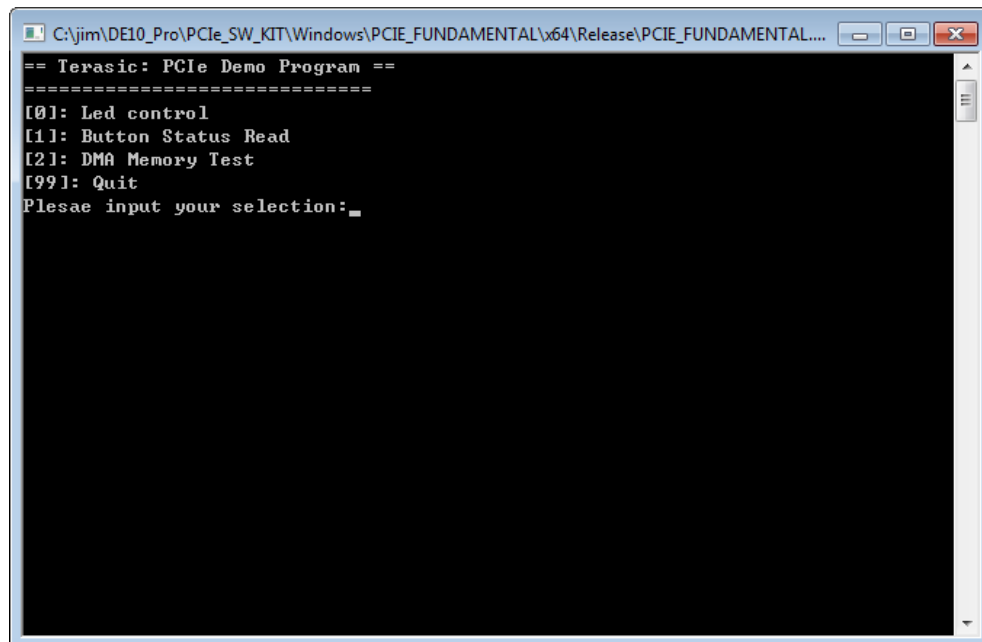

Figure 7-11 Screenshot of Program Menu
6. Go to windows_app folder, execute PCIE_FUNDAMENTAL.exe. A menu will appear as shown in **Figure 7-11**.